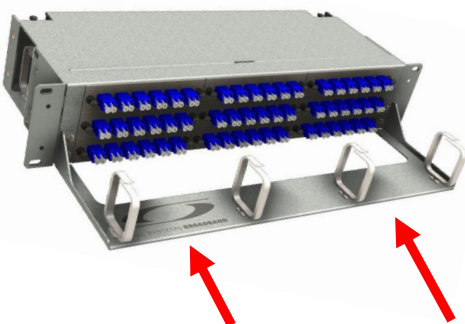

Fig. 4
6. Installation of Slide Card – Fold along perforation with plastic coating side facing out. With finger tabs towards the front, insert the folded slide card into slot under the Cable Management Bracket (Fig. 4).
Bracket mounting for a 19" rack is highlighted in the illustration (Fig. 4).